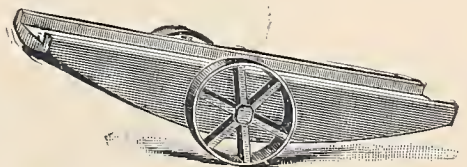

Fig. B 520. — Sleigh-Truck.
*The Sleigh-Truck*, shown at *Fig. B 520*, is used in stables and repositories under the runners of sleighs and sleds in moving them on the floor. For this purpose they are sold in pairs, but they are also used for marble slabs and other purposes.